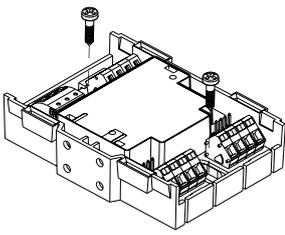

Fig. 9
- Installing directly in a switching cabinet or a control unit: mount the module on an even surface (Fig. 9).
2. Place the module in the housing and fix it with two screws (Fig. 9/10).
2. Fix the module with two screws (M4 X15) (Fig. 9). Distance between holes:  $63.5 \pm 1.0$  mm